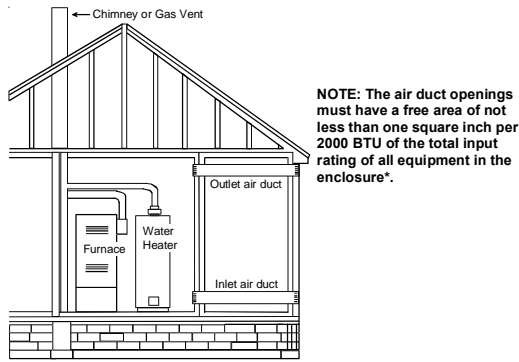

Figure A.9.3.3.1(2) All Combustion Air From Outdoors through Horizontal Ducts.
9.3.3.2* One Permanent Opening Method. One permanent opening, commencing within 12 in. (300 mm) of the top of the enclosure, shall be provided. The appliance shall have clearances of at least 1 in. (25 mm) from the sides and back and 6 in. (150 mm) from the front of the appliance. The opening shall directly communicate with the outdoors or shall communicate through a vertical or horizontal duct to the outdoors or spaces that freely communicate with the outdoors (*see Figure A.9.3.3.2*) and shall have a minimum free area of the following: